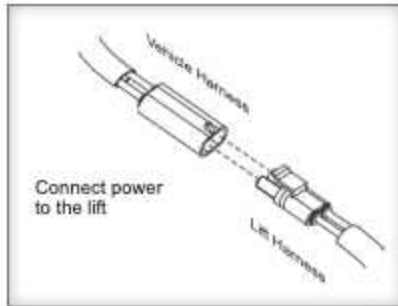
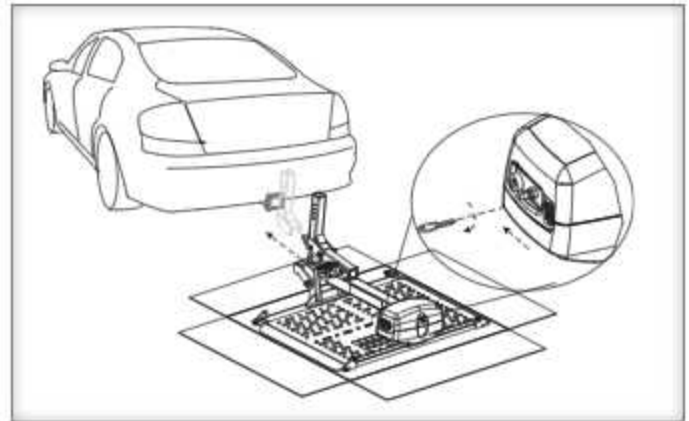

Figure 16-1
Figure 16-2
4. Connect power to the lift. [Figure 16-1] Insert and turn key. Press 'DOWN' to extend the lift. [Figure 16-2]